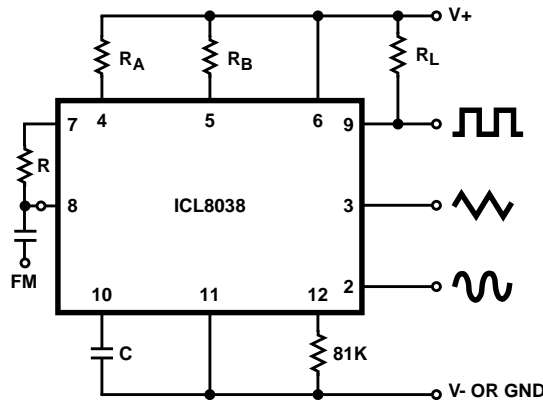

FIGURE 5A. CONNECTIONS FOR FREQUENCY MODULATION
- $V_{\text{SUPPLY}} = 20\text{V}$; R_A and $R_B = 10\text{k}\Omega$, $f \approx 10\text{kHz}$ nominal; can be extended 1000 to 1. See Figures 5A and 5B.
The frequency of the waveform generator is a direct function of the DC voltage at Terminal 8 (measured from V_+). By altering this voltage, frequency modulation is performed. For small deviations (e.g. $\pm 10\%$) the modulating signal can be applied directly to pin 8, merely providing DC decoupling with a capacitor as shown in Figure 5A. An external resistor between pins 7 and 8 is not necessary, but it can be used to increase input impedance from about 8kΩ (pins 7 and 8 connected together), to about $(R + 8\text{k}\Omega)$.